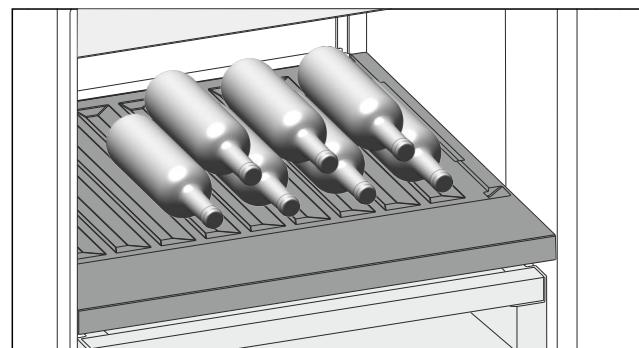

Fig. 131
- ▶ Place bottles in the back row with their bases against the back wall. (see Fig. 131)